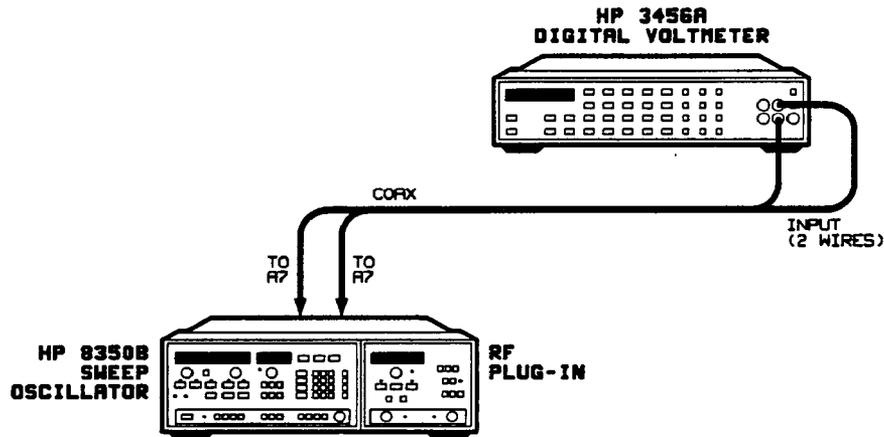

Figure 5-1. +20V, -40V, and -10V Power Supply Adjustments Setup
3. Position the sweep oscillator as shown in Figure 5-1 and remove the top and bottom covers.